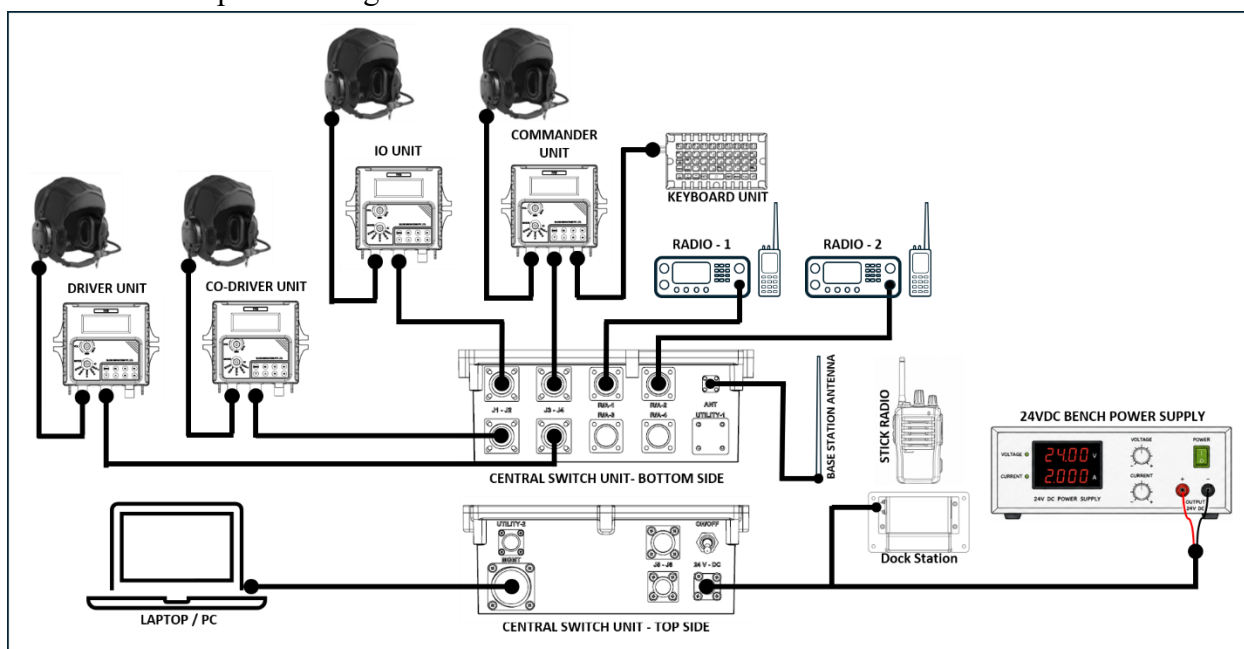

Figure 18: iVIS Test Setup – CMTV
- Make the system connection in CMTV configuration as per Figure 18.
To conduct functional tests, version verification test, interfaces verification tests, a test setup for CMTV as depicted in Figure 18.
- 1 Make the system connection in CMTV configuration as per Figure 18.
1. Make the system connection in CMTV configuration as per Figure 18.